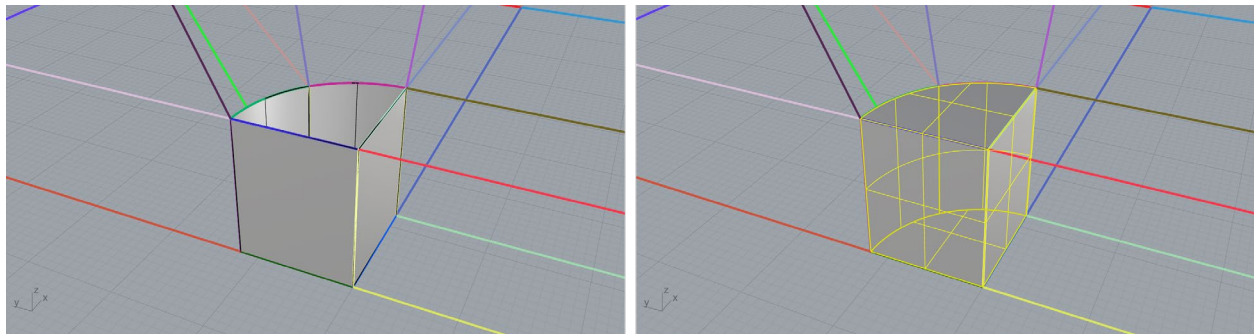

Figure 45: Building the last solid block in the model.
18. For the remaining central block, build only vertical surfaces using the **_Loft** command and join all four of them with the **_Join** command (Figure 45, left).
19. Select a single polysurface as in Figure 45 (left) and cap the holes with the **_Cap** command (Figure 45, right). The resulting solid is the last block needed before meshing.